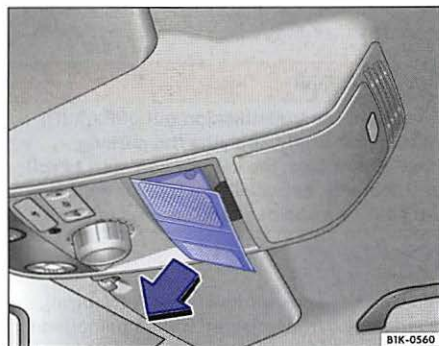

Fig. 150 In headliner: Removing cover.
- Remove the cover in direction of the arrow $\Rightarrow$ fig. 150.